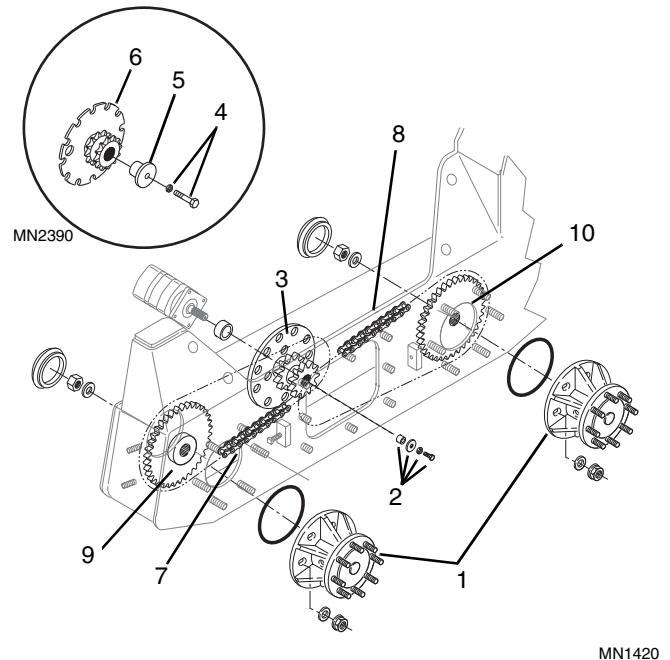

Figure 6-11 Vehicle Sprockets and Axles
1. Refer to Section 6.4.2, "Axle Assembly and Axle Sprocket Removal," and remove the axle assemblies (Fig. 6-11, 1).
2. **On Model 1750D, 2000D/DX Only**, remove the hardware (Fig. 6-11, 2) that holds the drive sprocket (3) on the drive motor shaft.
On Model 2300D/DX Only, remove the hardware (Fig. 6-11, 4) and drive sprocket stop (5) that holds the drive sprocket (6) on the drive motor shaft.
3. Remove the drive chains (Fig. 6-11, 7 and 8) from the drive sprockets (3 or 6).
4. Remove the drive sprocket (Fig. 6-11, 3 or 6) from the travel motor output shaft and remove the drive sprocket from the chain case.
5. Move the axle sprockets (Fig. 6-11, 9 and 10) toward the access opening, and remove the chains (7 and 8) from the axle sprockets.